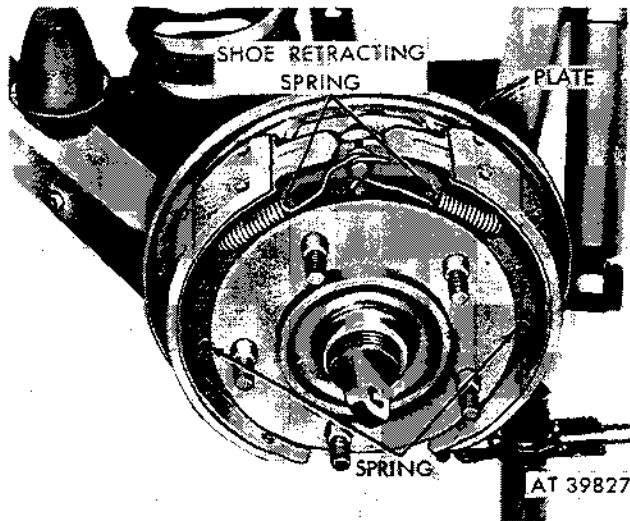

Figure 2-370. Remove brakehoe holddown and retracting springs.
(3) Insert suitable tool in conical brakeshoe holddown spring. Push spring toward backing plate and force to one side until free of holddown anchor (fig. 2-370).
(4) Unhook and remove shoe retracting springs from anchor pin and brakeshoes (fig. 2-370).